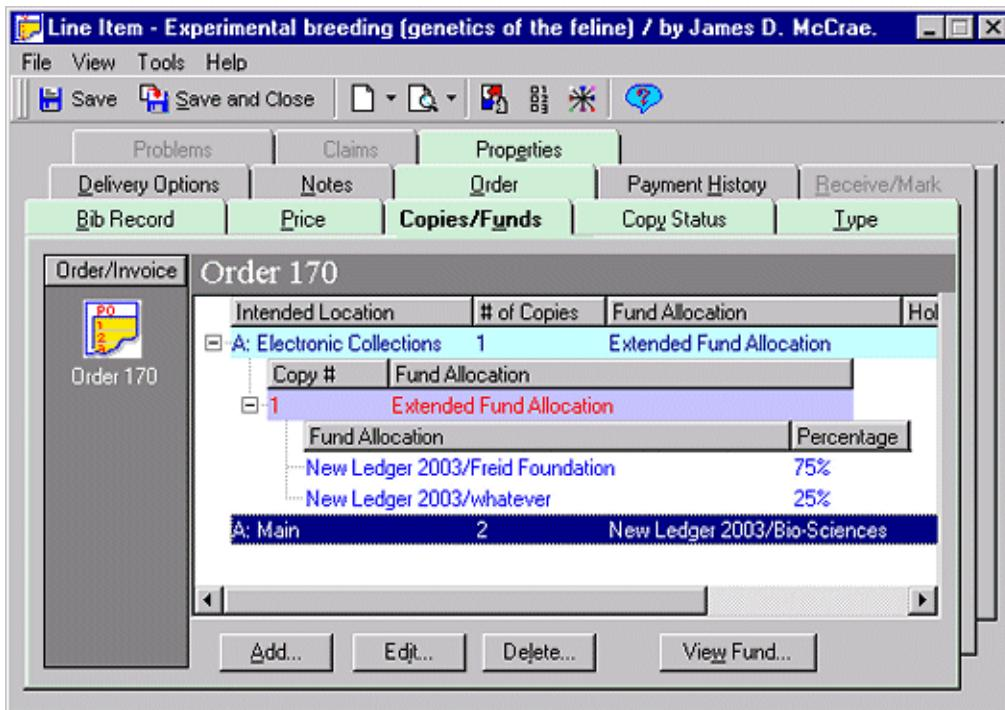

Figure 6-33. Copies/Funds tab, hierarchy
Once copies and funds have been defined and the **Copies and Funds** dialog box closed, the copies and funds display in a hierarchical structure (see Figure 6-33 on page 6-56.) This structure provides a consolidated display of all locations and funds.
5. If your entries are complete and you will not be using the Extended Fund Allocation feature, click the **Close** button to return to the **Copies/Funds** tab of the **Line Item** dialog box (see Figure 6-33). Otherwise, continue with Procedure 6-12, Editing extended fund allocations or Procedure 6-13, Adding an extended fund allocation.
Result: The fund's allocation is changed. The **Copies and Funds** dialog box closes, and all copies and funds for the item display in a hierarchical structure on the **Copies/Funds** tab of the **Line Item** dialog box (see Figure 6-33).
Result: An extended fund allocation is added to a copy. The **Copies and Funds** dialog box closes, and all copies and funds for the item display in a hierarchical structure on the **Copies/Funds** tab of the **Line Item** dialog box (see Figure 6-33).
The copy and fund information displays in a hierarchical structure on the **Copies/Funds** tab (Figure 6-33) after fund allocations have been completed.